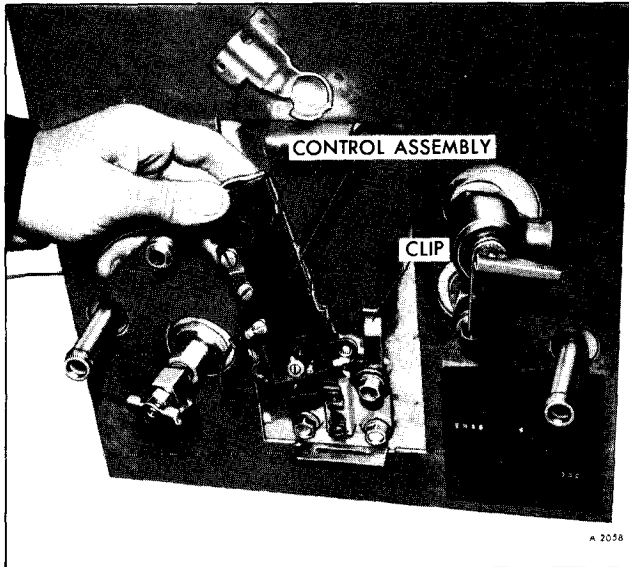

Figure 9—Removing Control Assembly
3. Disconnect wire and remove control assembly as shown in Figure 9.